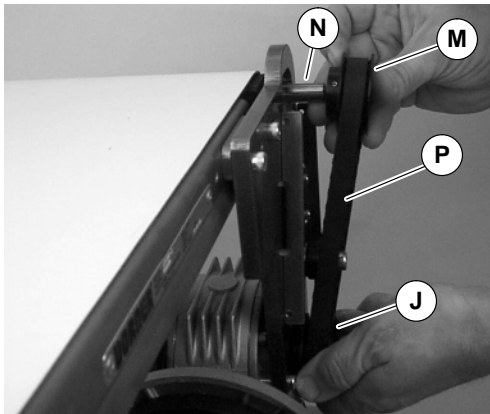

Figure 14
6. Install key (N of Figure 14).